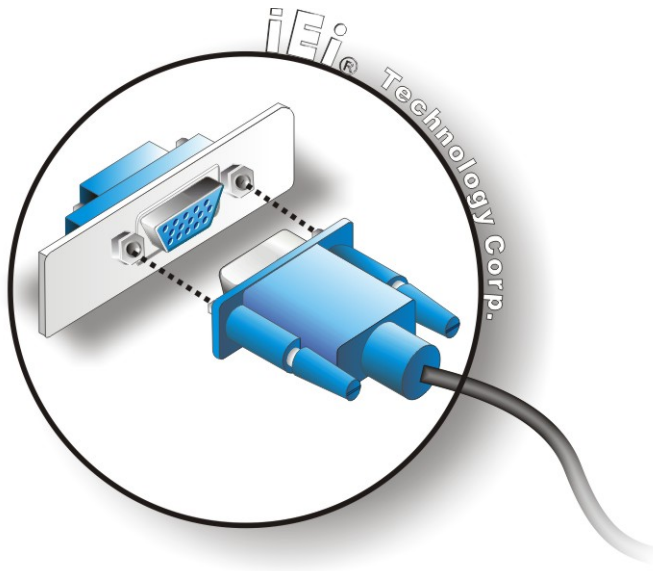

Figure 4-21: VGA Connector
- Step 3:** **Insert the VGA connector** Once the connectors are properly aligned with the insert the male connector from the VGA screen into the female connector on the WAFER-945GSE. See **Figure 4-21**.